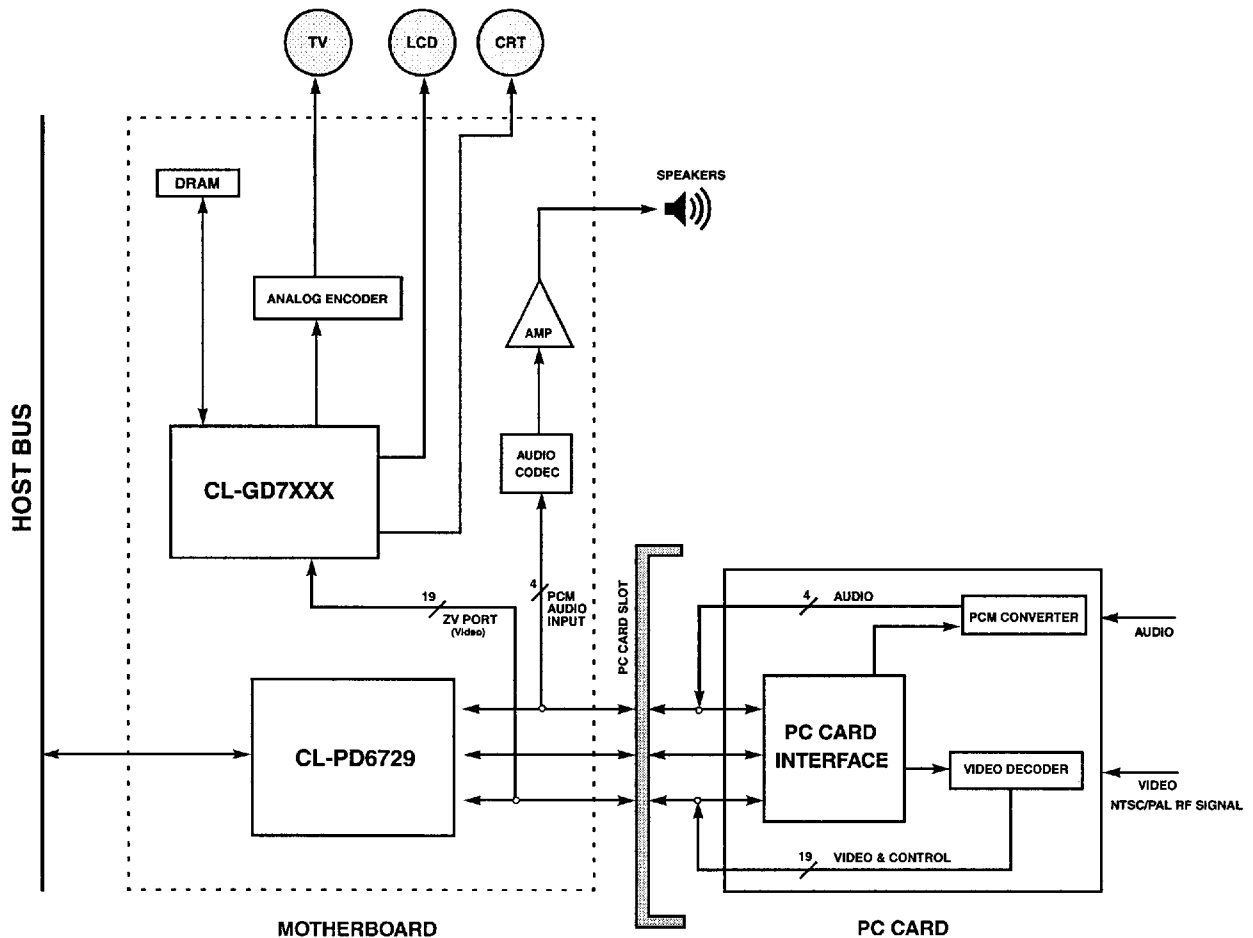

Figure 3-3. A Typical ZV Port Implementation
Figure 3-3 shows an example of the ZV Port implementation using the CL-PD6729. For more details, refer to the application note *Zoomed Video (ZV) Port Implementation (AN-PD10)*.